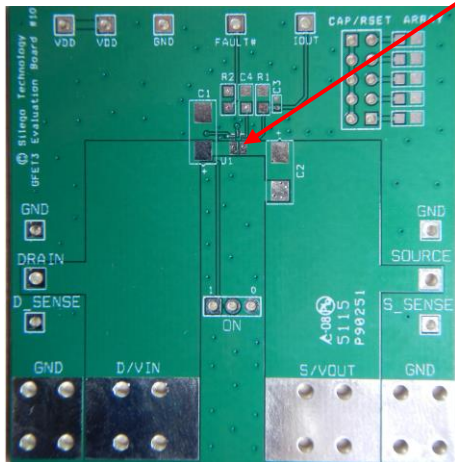

Figure 3. SLG59M1707V Evaluation Test Board
Please note how the VIN and VOUT pads are placed directly on the power planes in Figure 3, which minimizes the RDS(ON) associated with long, narrow traces. The VIN and VOUT pins dissipate most of the heat generated during high-load current condition. The layout shown in Figure 3 is illustrating a proper solution for heat to transfer as efficiently as possible out of the device.